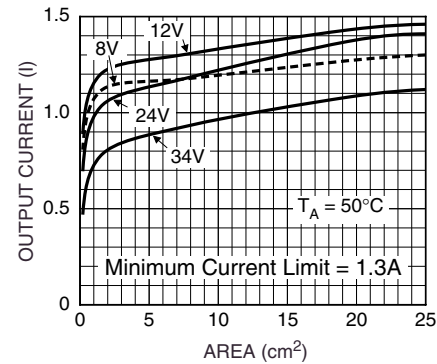

Figure 3. Output Current vs. Ground Plane Area
**Note.** For increased output current, see “Applications Information: Increasing the Maximum Output Current” and Figure 3.
Using Figure 3, for a given input voltage range, determine the minimum ground-plane heat-sink area required for the application's maximum output current. Figure 3 assumes a constant die temperature of 75°C above ambient.